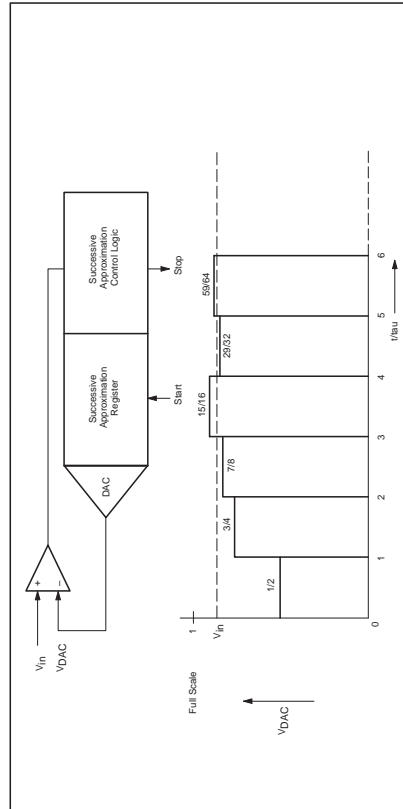

Figure 35. Successive Approximation ADC
Analog-to-Digital Conversion: Figure 35 shows the elements of a successive approximation (SA) ADC. The ADC contains a DAC which converts the contents of a successive approximation register to a voltage (VDAC) which is compared to the analog input voltage (Vin). The output of the comparator is fed to the successive approximation control logic which controls the successive approximation register. A conversion is initiated by setting ADSC in the ADCON register. ADSC can be set by software only or by either hardware or software.